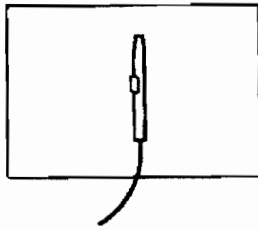

Fig. 1
2. Lay the pencil body in the center of the wrapping material as shown (Fig. 1).